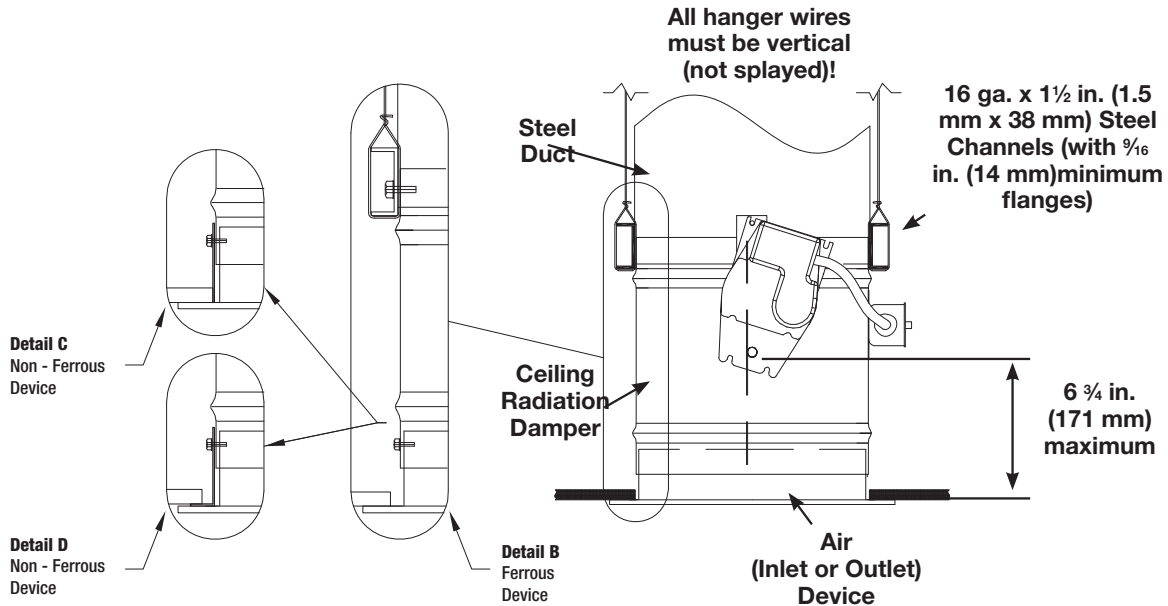

Figure 5
Ceiling radiation dampers and air inlet or outlet devices may also be supported directly from the structure above using one or more of the methods described in **Figures 5, 6, 7, or 8**. When channels are to be used as support, they must be 16 ga. x 1 1/2 in. (1.5 mm x 38 mm) steel channels with 1/16 in. (14 mm) minimum flanges (2 required per damper on opposite sides). Air device flange must overlap the ceiling membrane by a minimum of one inch (25 mm). Follow guidelines in General Information, Ceiling Penetrations and Connections when preparing opening in the ceiling membrane and making connections.
Ceiling radiation damper may be connected directly to the air device neck and then the duct drop connected to the damper (see **Figure 5, Detail B**).
- 1) A steel duct drop extension should extend from the damper to the bottom surface of the ceiling membrane and the opening in the ceiling membrane (see General Information, Ceiling Penetration) should be equal to the outside of the duct drop (see **Figure 5, Detail C**). Models CRD-501 may be installed as shown in **Figure 5**.
2. A steel angle should be attached to the bottom of the ceiling radiation damper and span the gap from the ceiling radiation damper to the bottom of the ceiling membrane. The steel angle should overlap the ceiling membrane (see **Figure 5, Detail D**).
Model CRD-501 may be installed as shown in **Figure 5**.